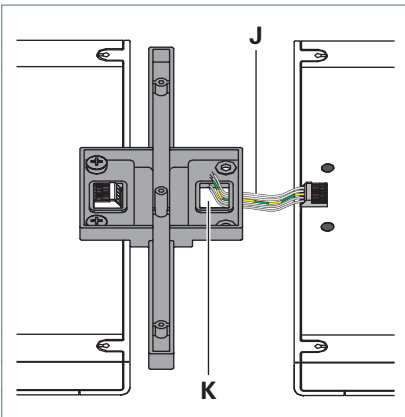

Fig. 14: Installing the cables.
- Guide the cables **J** of the luminaire to be daisy chained from below through the recess **K** at the connecting element of the last mounted luminaire, see Fig. 14.